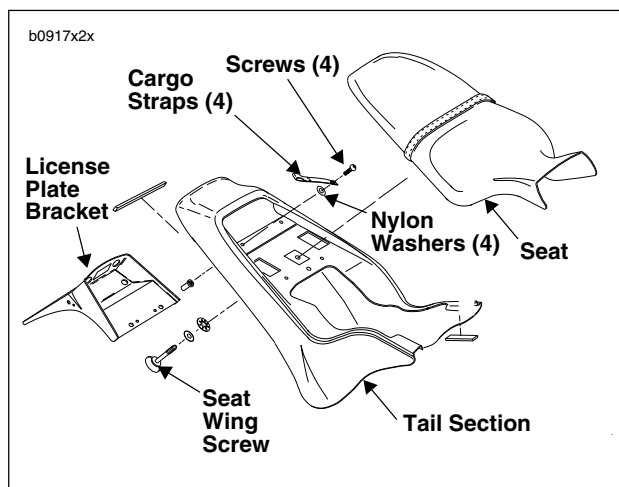

Figure 2-107. Tail Section
1. See Figure 2-107. Loosen seat wing screw. Remove seat by pulling up and back.
4. See Figure 2-107. Remove four screws, nylon washers and cargo straps.
2. See Figure 2-107. Install four cargo straps, screws and nylon washers that secure tail section to frame. NOTE: Nylon washers go between cargo straps and tail section.
6. See Figure 2-107. Place seat on tail section. Tighten wing screw from underneath the tail section.